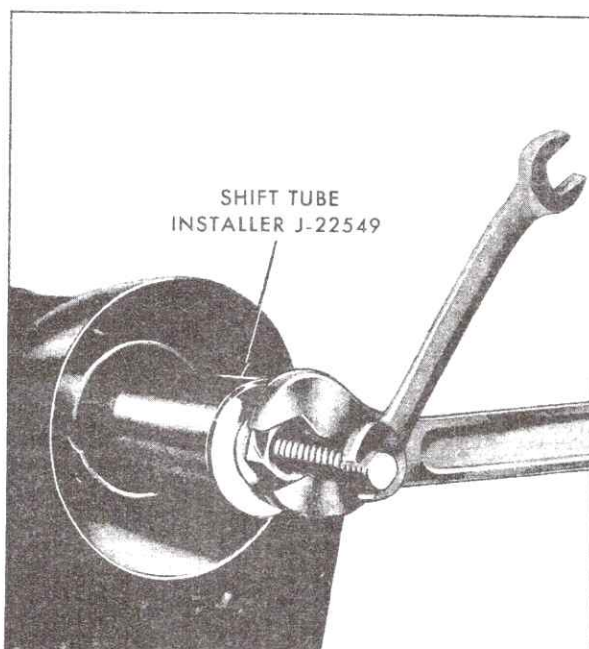

Fig. 9-54 Installing Shift Tube
11. Install Shift Tube Installer, J-22549, aligning flat on lower portion of tool with keyway in tube and insert tool into tube. Turn tool so that lower portion of tool catches under indented portion of shift tube at keyway. Keeping lower shift lever lined up with T slot, turn nut on top of J-22549, Fig. 9-54, until shift tube bottoms on bowl. Check to make sure that neutral-safety switch hole in shift tube lines up with slot in jacket and that lower shift lever has clearance in jacket. Do not push or tap on end of shift tube. Remove Shift Tube Installer.